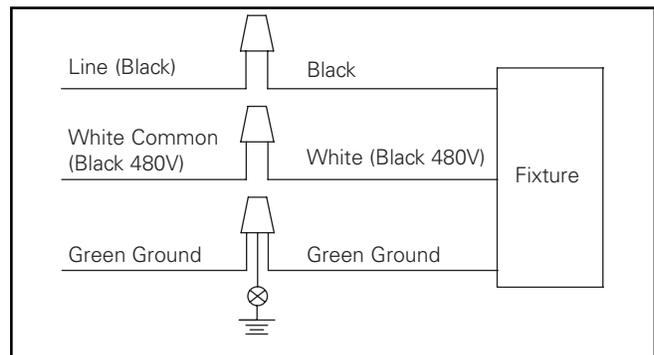

Figure 4.
4. Make wire connections inside the mounting arm. Refer to wire diagram for power connections. Connect the supply wires to appropriate luminaire leads. (Figure 4.)